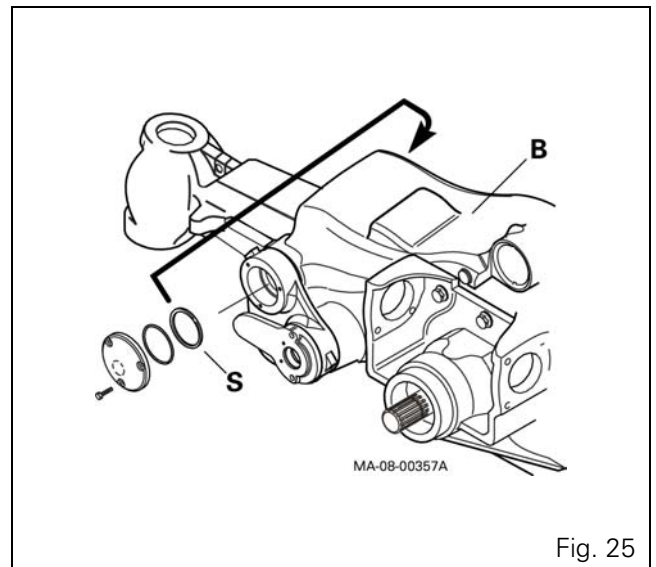

Fig. 25
**27.** The clearance X must be at least 0.10mm. If not, move the shims S in the upper left-hand arm B across to the opposite housing of the same arm (Fig. 25).